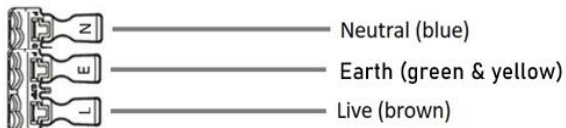

Fig. 3
- Connect the luminaire to the mains supply ensuring the correct polarity is observed (see Fig. 3): L – Live (brown), E – Earth (green/yellow), N – Neutral (blue). The earth terminal is non-functional and only provided for convenience. Two cables can be inserted into the push-fit terminal block in order to achieve loop-in/loop-out wiring